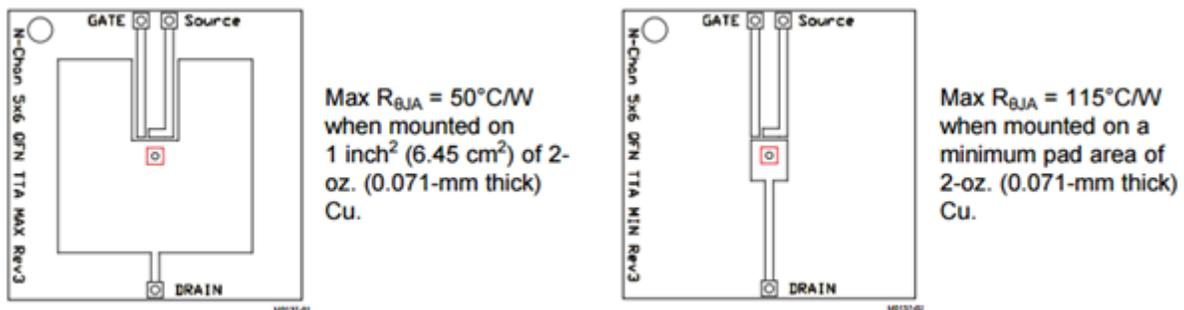

Figure 3. Small Outline No-lead (SON) 5mm-by-6mm $R_{\theta JA}$ Measurements as They Appear in the Device Data Sheet
Because $R_{\theta BA}$ is completely dependent on board conditions (PCB size, copper thickness, number of layers) it is impossible to know the total $R_{\theta JA}$ without knowing $R_{\theta BA}$ as well. Regardless, $R_{\theta BA}$ will be the dominant impedance dictating $R_{\theta JA}$. In practical applications, it can be as high as 40 °C/W, all the way down to ~10 °C/W for well-designed systems. FET vendors can only guarantee $R_{\theta JC}$, but typically, they do provide some $R_{\theta JA}$ for worst-case scenarios. For example, transistor outline (TO)-220 or TO-263 (D2PAK) data sheets list the measured $R_{\theta JA}$ with the device suspended in air (see Figure 3). QFN devices, on the other hand, are measured on 1-inch copper and min Cu minimum copper board (see Figure 4). The maximum values provided in the data sheet and shown in Figure 4 are 25% above those values measured in characterization. Because they are almost entirely dependent on the package's interaction with the surrounding board, and less on die size or thermal mechanics inside the device, they are more or less industry standards for a given package.